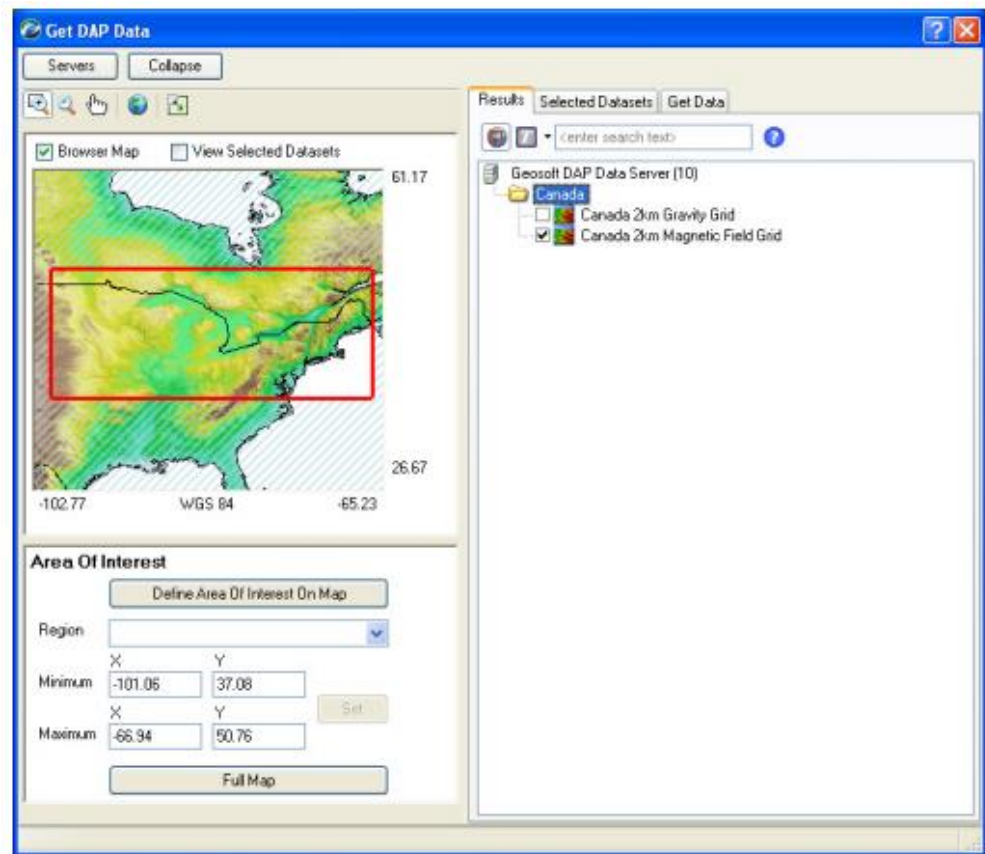

Figure 1.88. – Get DAP Data panel
2. Click the [**Authorize**] button. The system will query the DAP server to determine what data the DAP server has that matches the data view of your current map. When a match has been made the *Get DAP Data* dialog will be displayed, fig. 1.88.